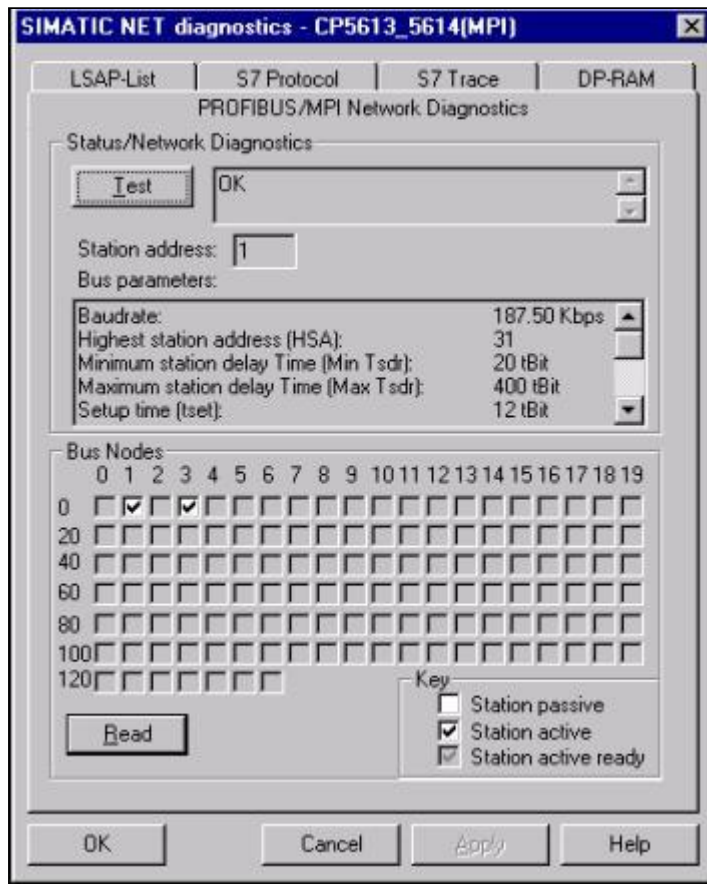

FIGURE 11: THE SIMATIC NET DIAGNOSTICS DIALOG BOX
- If all has been configured properly, Simatic Net will return an OK, as seen in Figure 11.